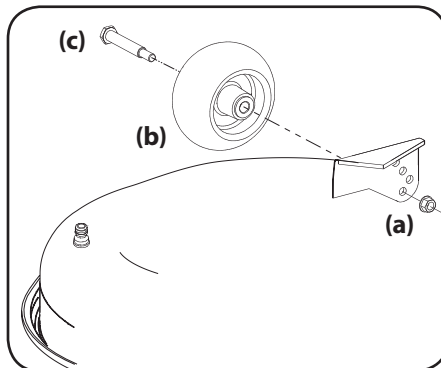

Figure 2-7
- Remove the lock nut (a) securing one of the front gauge wheel (b) shoulder screws (c) to the deck. Remove the gauge wheel (b) and shoulder screw (c). See Figure 2-7.